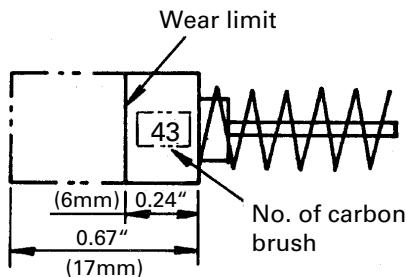

Fig. 6
4. Inspecting the carbon brushes (Fig. 6)
NOTE: Use metabo HPT carbon brush No. 43 indicated in Fig. 6.